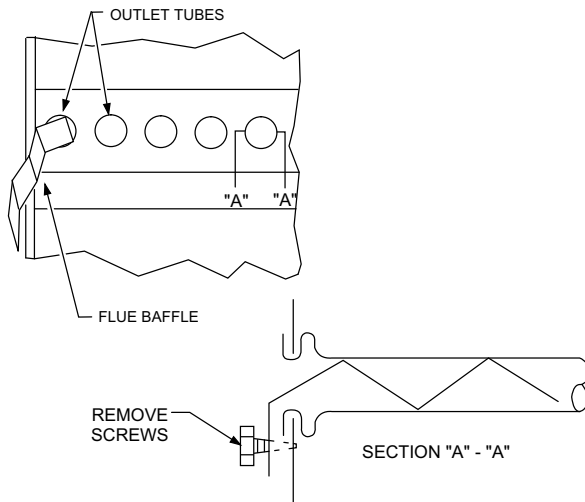

FIGURE 48 - TYPICAL FLUE BAFFLE
3. This will provide access to flue baffles, then remove the flue baffles from the tube interiors. To remove, the flue baffles, remove the stainless steel screws from the vest panel. Refer to Figure 48.